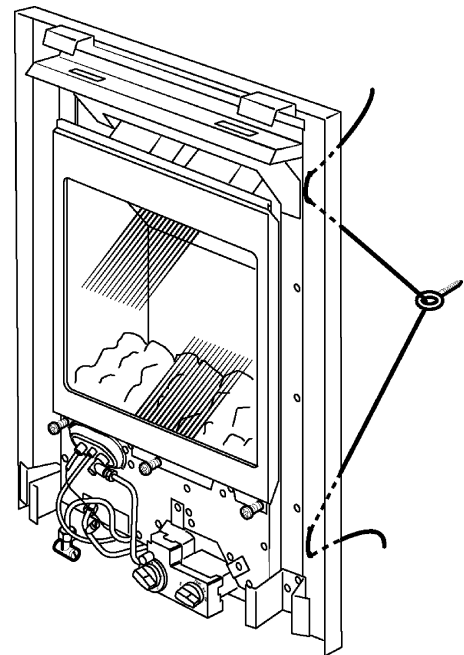

Figure 10. Cable retention
- Thread the two tension cables through the appliance case side holes as shown in figure 10.
- **Cable retention:** Fit the eyebolts onto the cables. Thread the cables through the appliance case sides as shown in figure 10. Offer the fire complete with flue unit through the wall. Pull the cables taut.